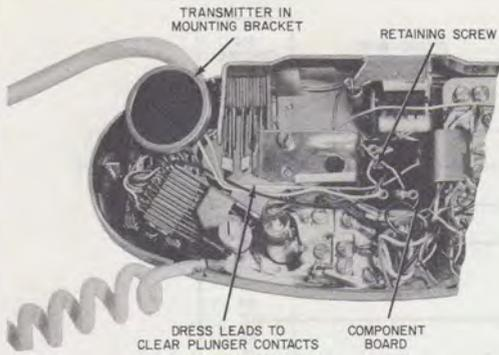

Fig. 3—664C Transmitter, Installed
- (1) Remove set housing. Loosen dial mounting screws and move dial to one side to clear area between dial mounting uprights. Do not disconnect dial leads.
- (2) Remove transmitter unit and component board (Fig. 3).